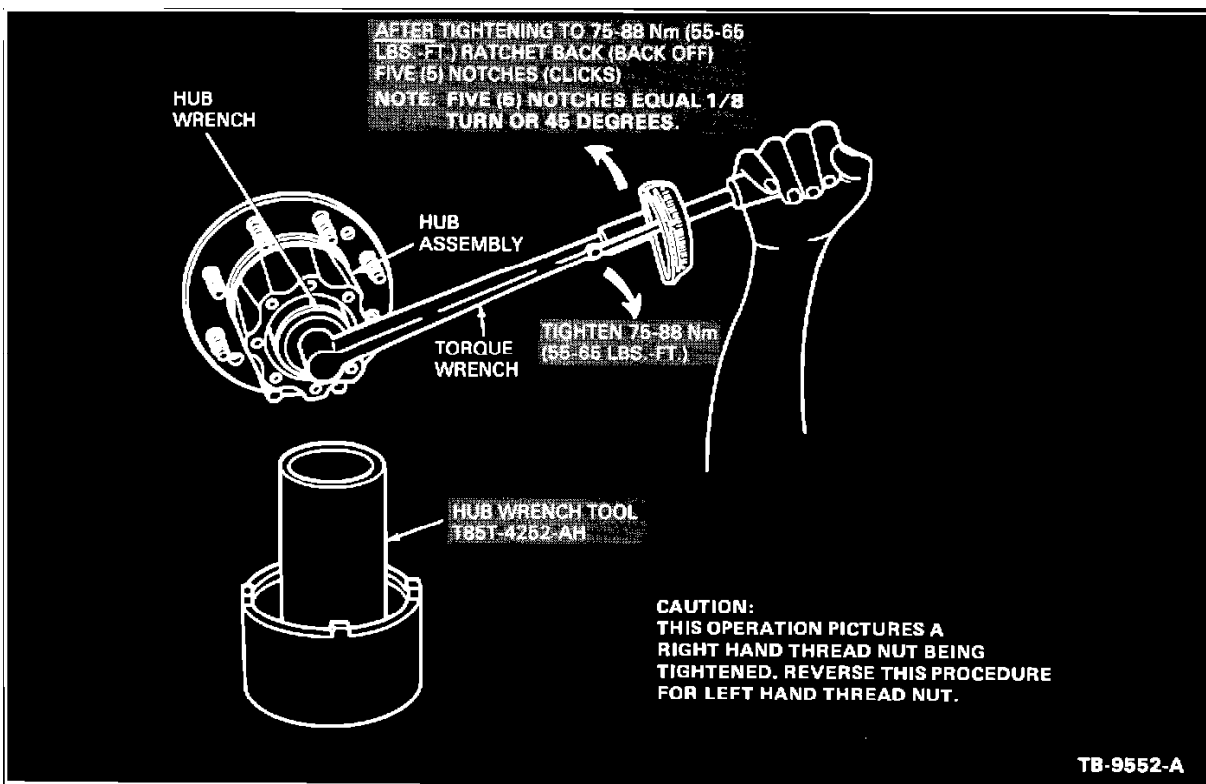

FIGURE 13
**ACTION:** If service is required, refer to the corrected illustration in this TSB article, Figure 13. This information should be inserted in your 1988 Light Truck Shop Manual, Volume A, Section 15-09-16.